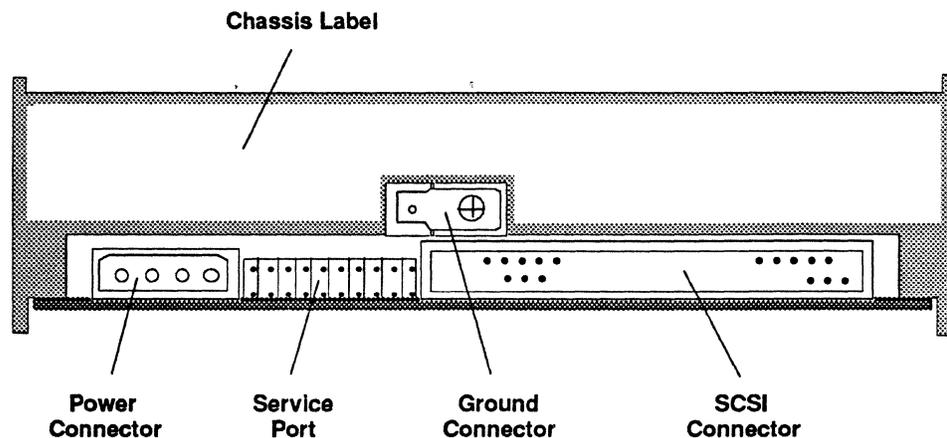

Figure 4.2 Rear View of Drive
- Chassis Grounding** The Drive-chassis must be grounded to the system-chassis through the mounting screws or by using the "fast-on" connector at the rear of the Drive, see Figure 4.2.